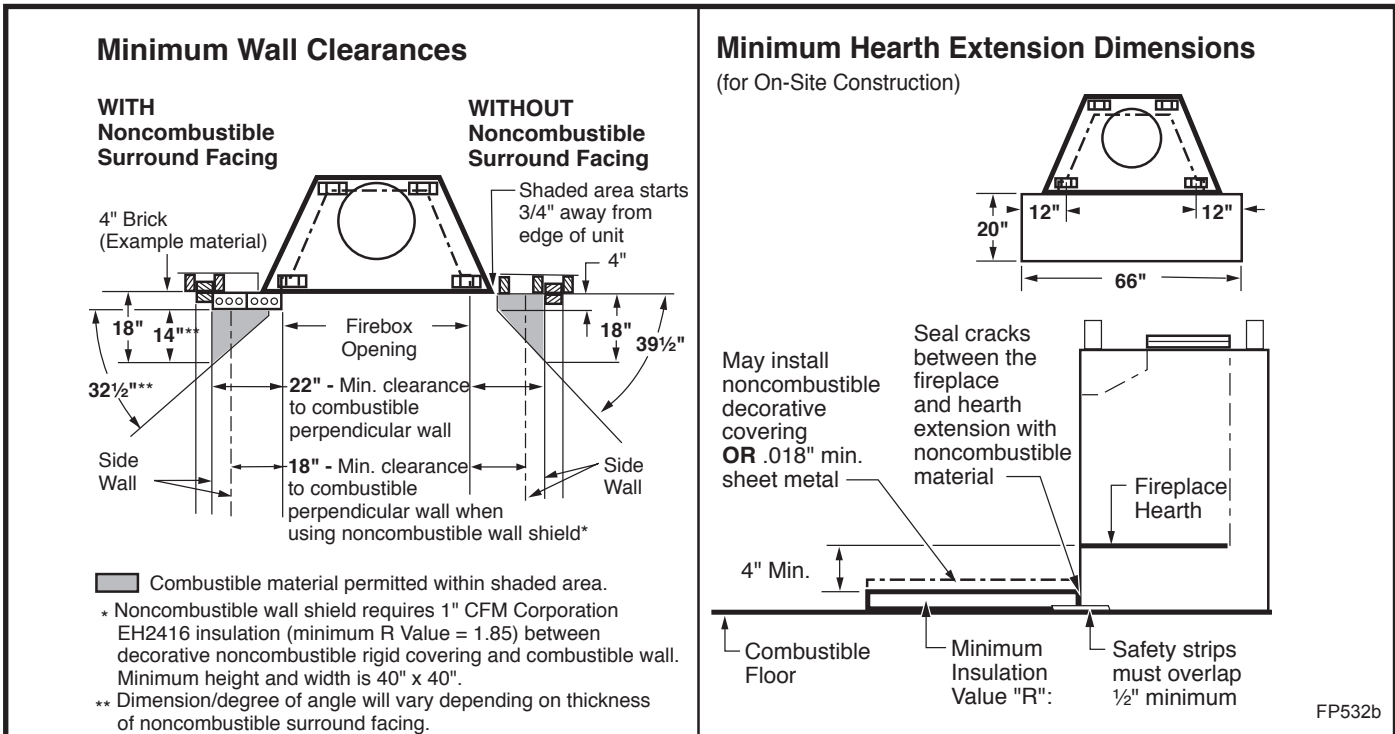

Fig. 27 Combustible side wall protection and hearth extension dimensions.
A hearth extension is required to protect a combustible floor in front of the fireplace. Refer to Figure 27 for minimum dimensions and mounting detail.
The hearth extension described in Figure 27 must be a durable noncombustible material with a minimum (total) Rt value of 1.09; refer to Figure 28 for examples. The overall height (above a combustible floor), depth and width must be as indicated, with the extension centered to the fireplace opening.
The top of insulation must be covered with a non-combustible decorative covering or a piece of .018" minimum sheet metal, to protect hearth extension material. (Fig. 27)
Secure the hearth extension to the floor to prevent shifting, using trim molding or other similar means at three (3) outer edges. Seal crack between the fireplace hearth and hearth extension with a noncombustible material. (Figs. 27, and 29 - 31)